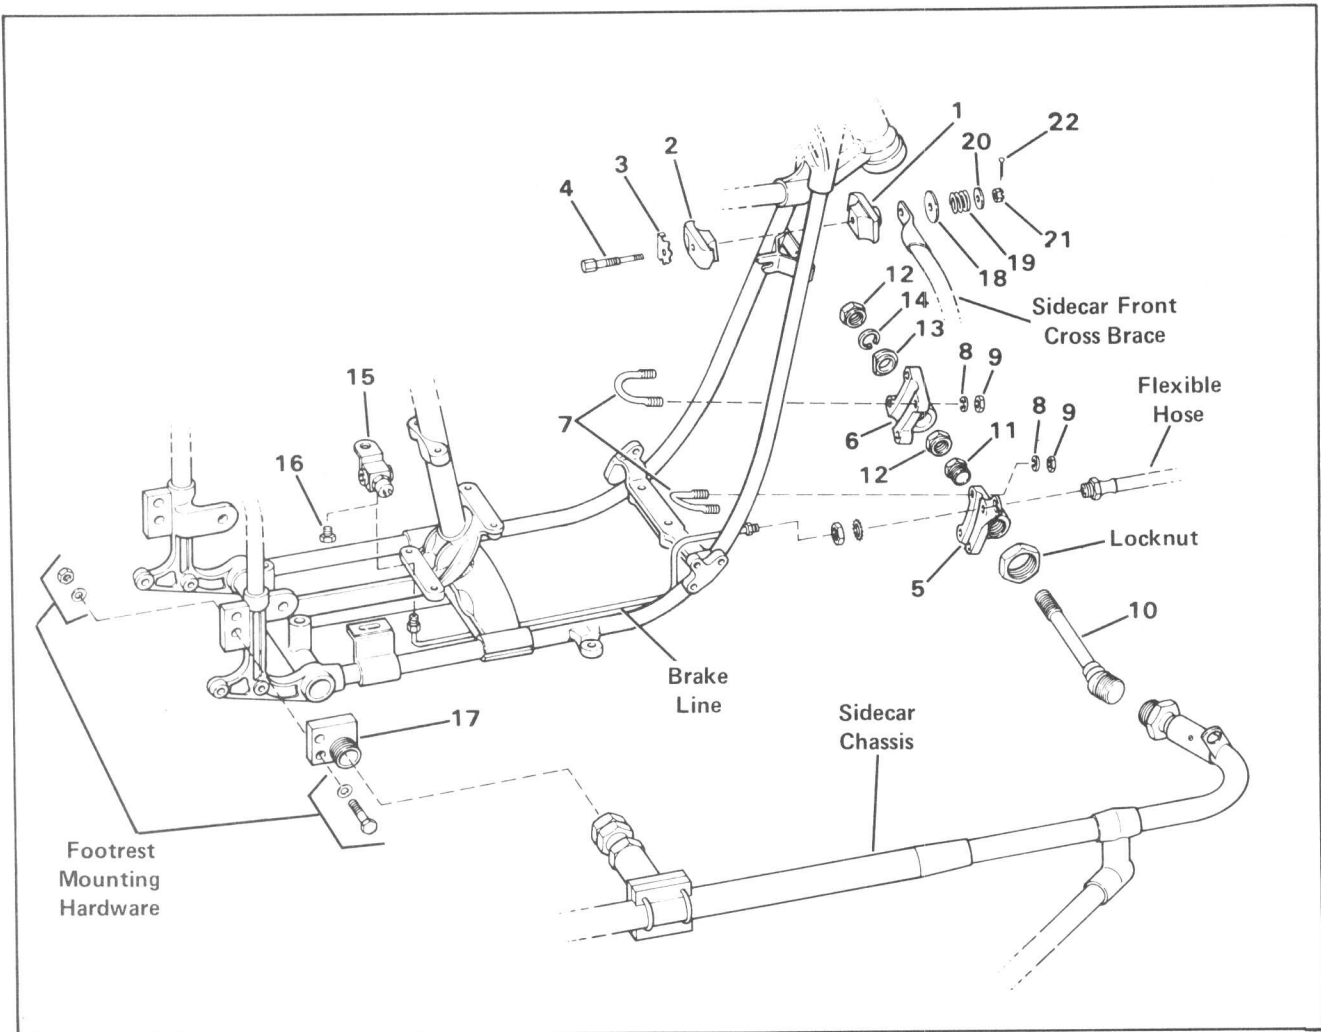

Figure 5-1. FLH (CLE) Connection Kit
See Figure 5-1. The item numbers above correspond with the "callout" numbers in Figure 5-1.
2. See Figure 5-1. Install front and rear upper clamp (1 and 2) on front of frame above gas tank mounting lug. Beveled edge of rear clamp and bent tabs of lockwasher should be to the right side of motorcycle. Fasten clamp halves using lockwasher (3) and bolt (4). Bend tab of lockwasher over flat side of bolt head. Re-install gas tanks.
3. See Figure 5-1. Install lower connections (5 and 6) on frame 10.75 in. below bottom edge of upper safety guard bracket, using u-bolts (7), lockwashers (8) and nuts (9). Right side connection (5) has ear with hole for installing hydraulic brake tubing.
4. See Figure 5-1. Insert tie rod (10) through right connection (5). Place large nut (11) on rod and turn one thin nut (12) all the way onto threaded left side of rod. Insert tie rod through left connection (6) and tighten large nut (11) securely on socket end.
5. See Figure 5-1. Replace the tee fitting located between engine and transmission under right side of motorcycle with tee (15) from kit. Install brake line supplied with sidecar to bottom hole in tee. Route brake line over cross-brace, under gearcase to ear in lower right connection (5). Brake line may require bending to fit.
6. See Figure 5-1. Remove right side passenger footrest and mounting bracket from frame. Use the footrest mounting hardware to install rear mounting bracket (17) with ball socket to the front.